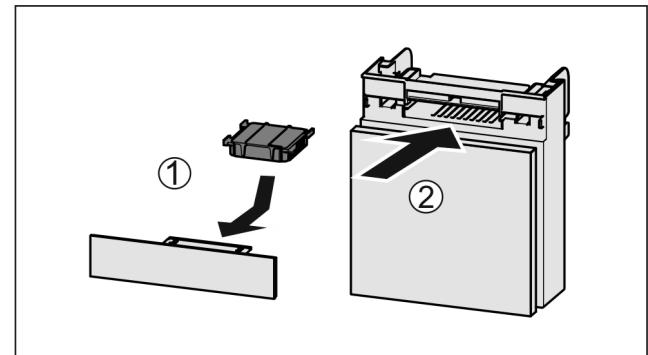

Fig. 121
- ▶ Insert the carbon filter as shown in the diagram Fig. 121 (1).
- ▶ Push the compartment in Fig. 121 (2).